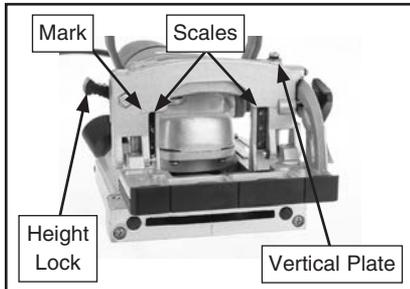

Figure 8. T10826 blade height adjustment.
2. Loosen height lock lever and move fence up or down on vertical plate until mark on fence aligns with appropriate measurement on scale (see **Figure 8**), then tighten height lock lever.